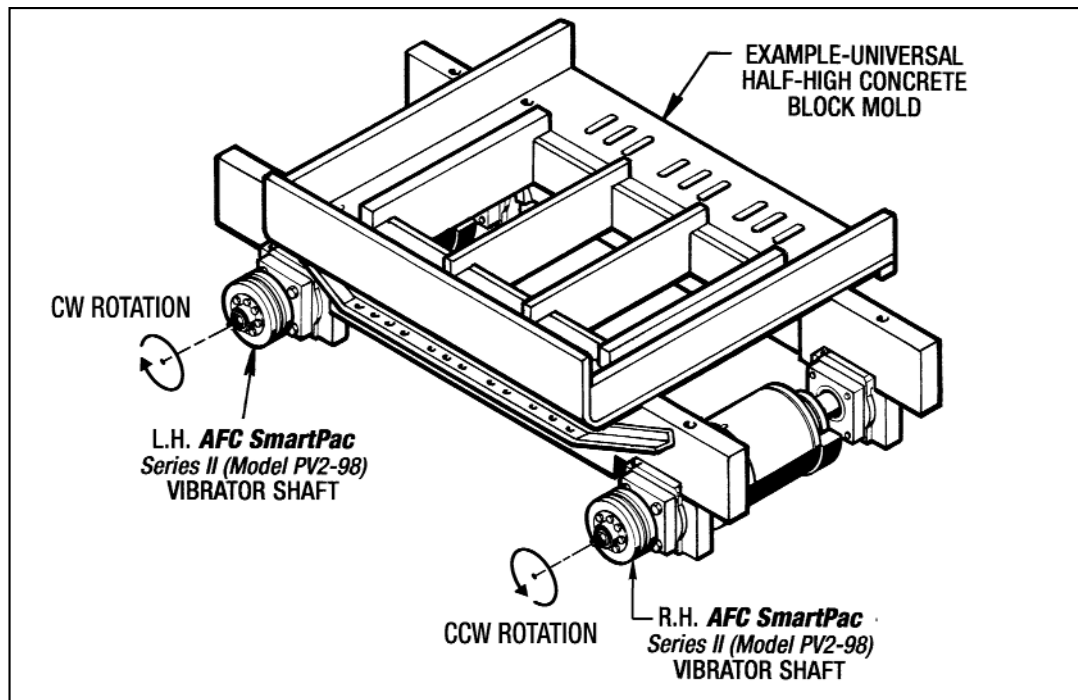

Figure 1.1 - Typical AFC *SmartPac* Application
Figure 1.1 shows the **AFC *SmartPac* Series II (Model PV2-98) Vibrator Shafts** on a typical Universal Half High Mold set-up to produce (3) 7-5/8" wide x 3-5/8" high x 15-5/8" long units.